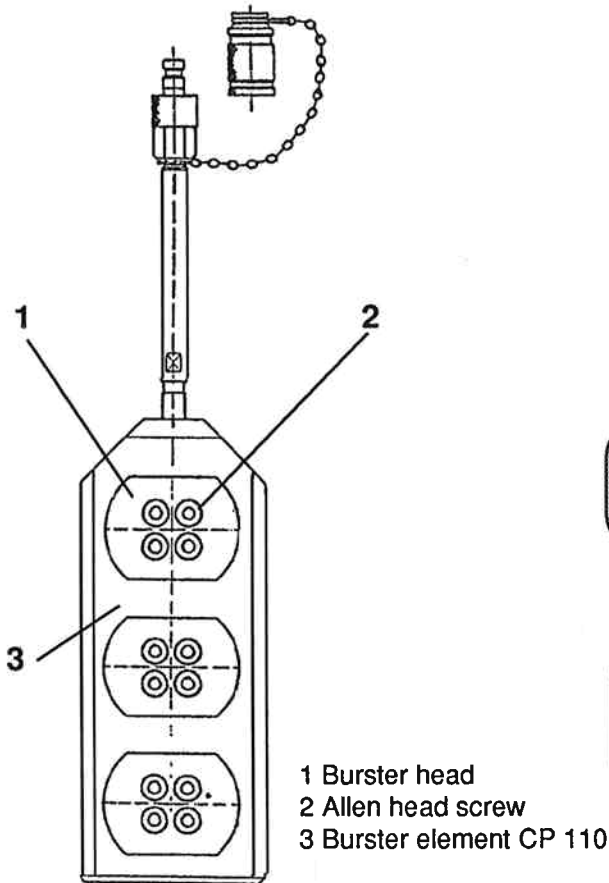

Abb. 7-2 Replacing the Burster Head CP 110
1. Four Allen head screws M 8 x 30 (2, Fig. 7-2)
2. Remove the burster head (1).
Insert the burster head by following exactly the instructions of Fig. 7-2.